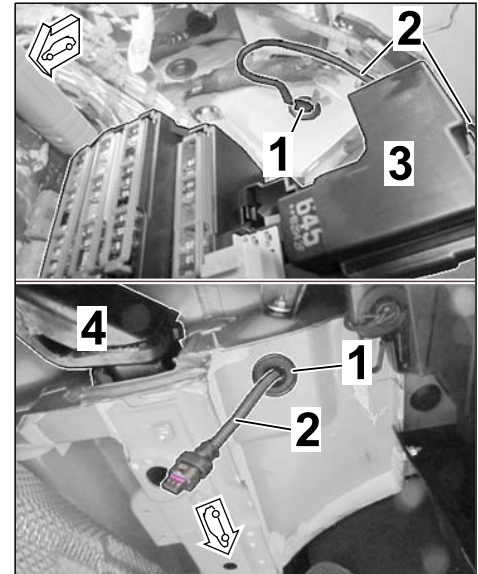

Figure 40
3.3 Guide connector (3-pin) through the bore to the underside of the vehicle and fit sleeve into the bore (⇒ *Figure 40*).